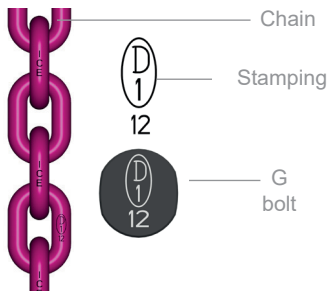

Fig. 1: ICE-chain
- Quality class of the component (*Fig. 1*)
- Only utilize oval ICE-G bolts (Fig. 1) with ICE components